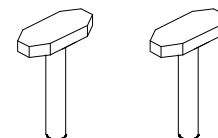

Figure 2-6
- ❑ HSS Pin (HSSPIN) - Plastic pins inserted through the HSSBASE to secure it to the mainboard (two required per Assembly). (Refer to Figure 2-6)